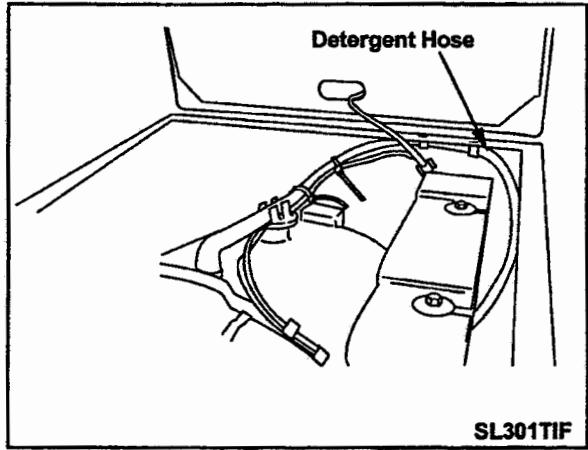

**Figure 2-30**
4. Follow the detergent hose vertically up to the air dome hose mounting bracket. The detergent hose is tucked behind the air dome hose (Figure 2-30).